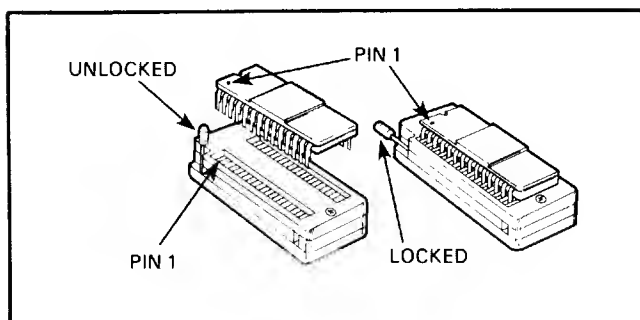

Figure 3-4. Device Installation
2. Lift the lever on the upper-left side of the socket below the lighted LED; see figure 3-4. The lever will stay in the upright position.
3. Gently set the device in the socket below the lighted LED. Make sure pin 1 of the device is aligned with pin 1 of the socket (upper-left corner); see figure 3-4.
2. Lift the lever on the left side of the socket: see figure 3-4. The lever will remain in the upright position.